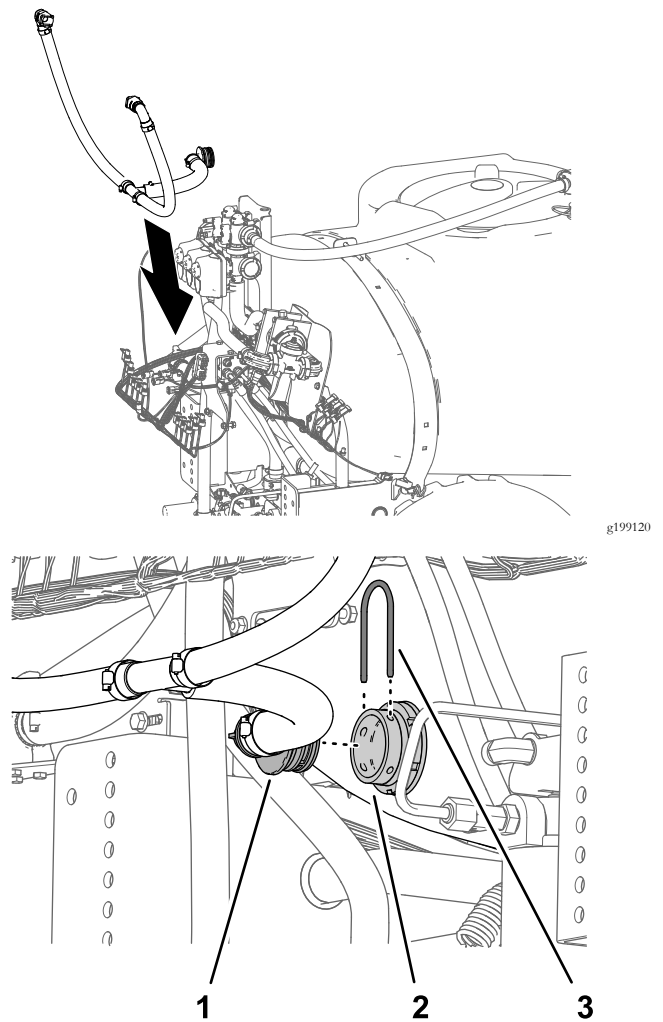

Figure 92
1. Align the bypass hose assembly to the sprayer tank (Figure 92).